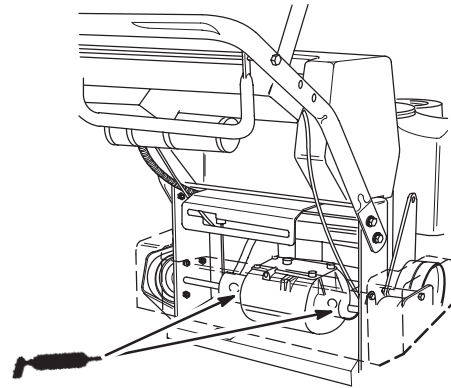

Figure 23
2. Lubricate the transmission couplers (Fig. 23). Guard does not have to be removed if you go in from the front, next to engine.